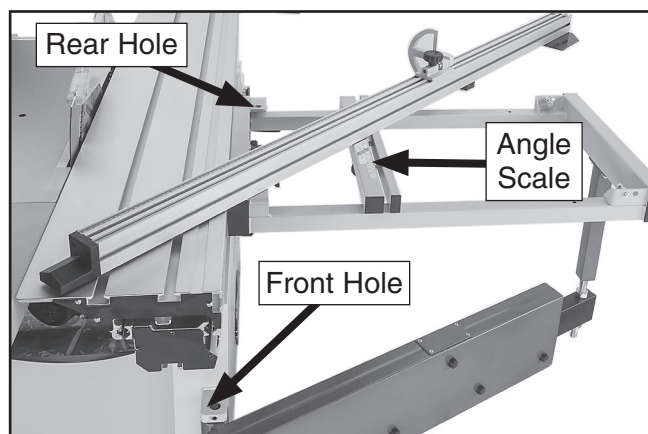
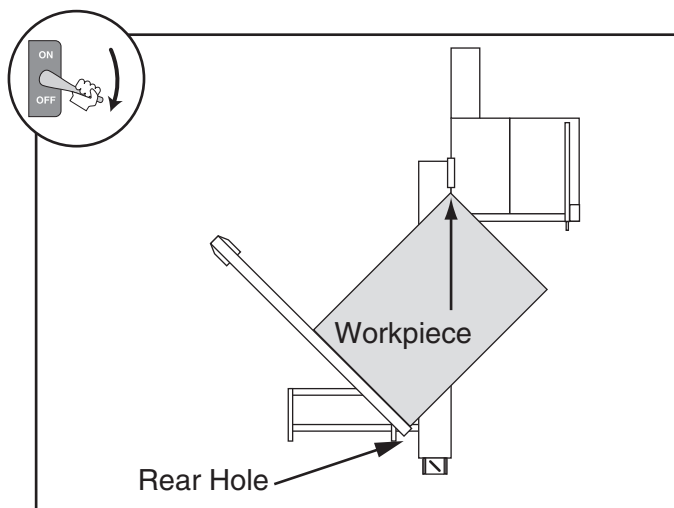

Figure 114. Crosscut fence positioned for miter cut.
Figure 115. Crosscut fence mounted in rear hole for miter cuts from 0° to 45°.
The crosscut fence can be positioned for miter cuts from 0°–45° using the front or rear crosscut table holes (see **Figure 114**). The angle scale on top of the crosscut table has a resolution of 1°.
3. Install fence pivot bolt into front or rear holes shown in **Figure 114** to position table for desired angle of cut (see **Figures 115–116**).
8. Load workpiece onto crosscut table. Setup should look similar to **Figures 115–116**.